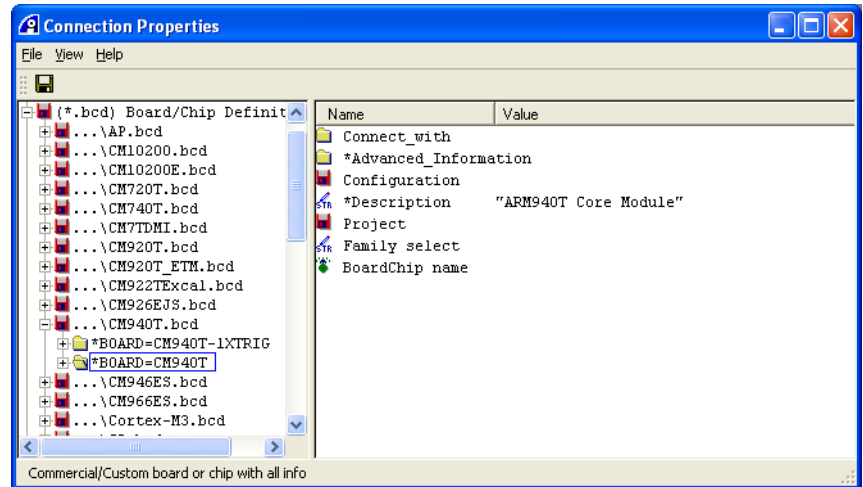

Figure 4-16 CM940T BOARD group selected
5. Select **Jump to Definition** from the context menu. The BOARD=CM940T group is selected in the ... \CM940T.bcd entry. Figure 4-16 shows an example: